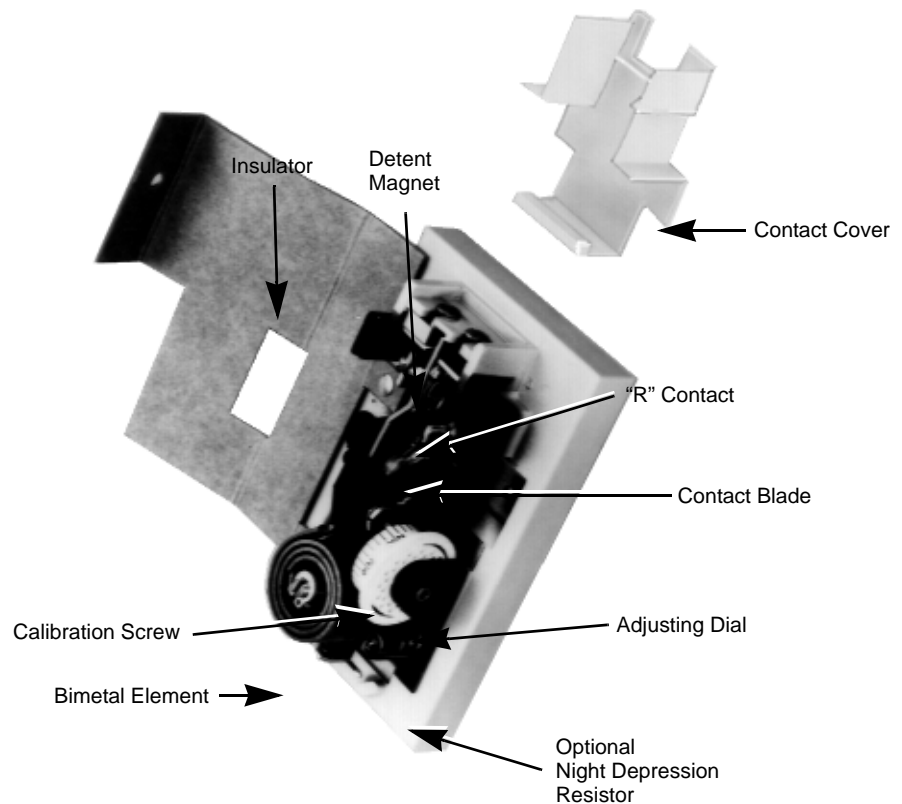

Figure-3 Part Identification.
3. Remove thermostat cover, remove screw that secures right-hand side of insulator, fold back insulator, and remove contact cover. (See Figure-3.)